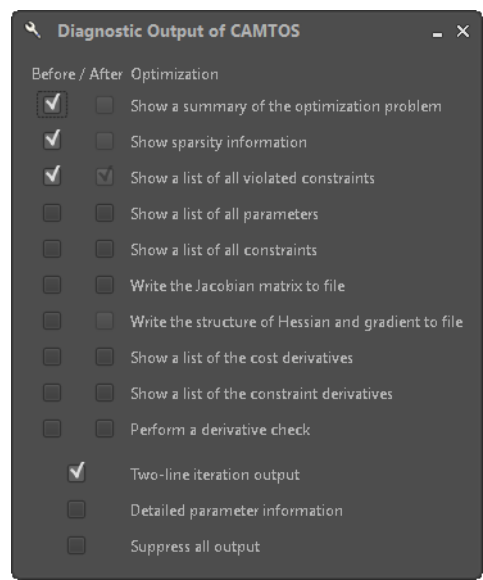

Fig. 4.2: Diagnostic Output window for CAMTOS
- Press **Select Diagnostic Output** and verify the settings are as in Fig. 4.2 (deactivate *Show a list of all constraints*).